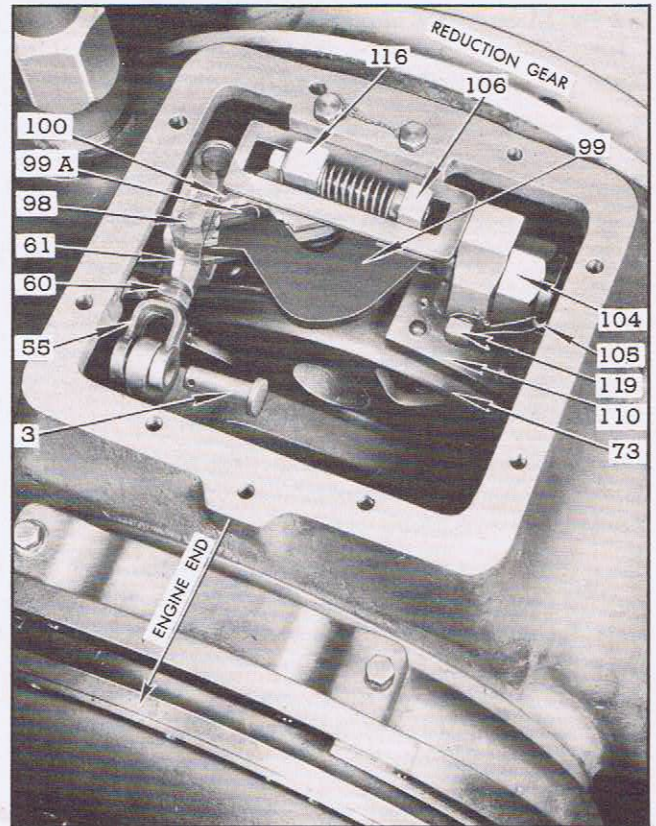

FIG. 53—YOKE LINKAGE AND REVERSE CLUTCH IN FORWARD DRIVE NEUTRAL POSITION.
III. Yoke Linkage. After the reverse gear has been attached to the engine, refer to Fig. 53 for part numbers and adjust the yoke linkage as follows:
2. Move the hand control lever (1) forward until it meets the first slight resistance of the forward clutch spring release and hold it at this point, i.e., the forward drive neutral point.
3. Move the yoke linkage—parts (55) and (61), together with arm (99)—backward until the cam pin (98) is against the forward end of the slot (99a) in arm (99). (Further movement would begin to clamp the band.) This is the reverse clutch neutral point. (See Fig. 53.)
4. Loosen nut (60) and adjust yoke (61) to such length that holes in yoke end (55) align with hole in lever (18)—meanwhile holding the control lever at its neutral point as indicated in "2", above.
5. Insert lever pin (3). Test the control lever action forward and reverse.
6. When the adjustments are correct, tighten nut (60) on yoke end (55), then insert and spread cotter in pin (3).